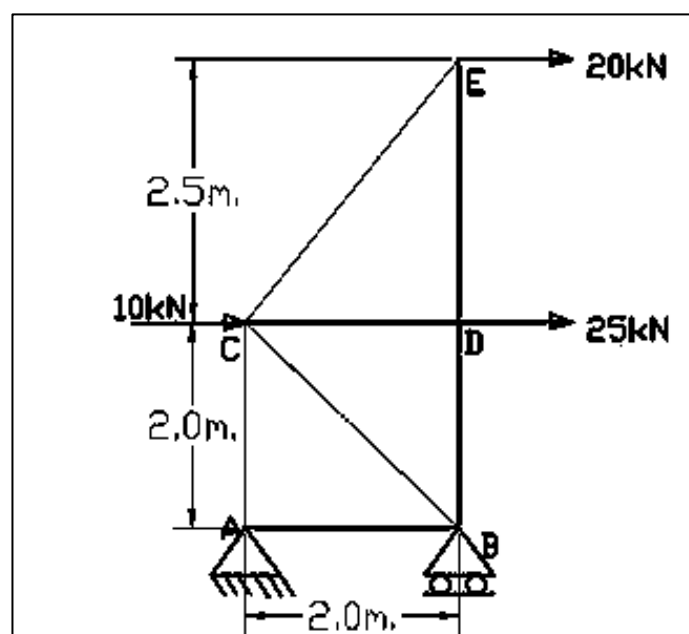

Fig. 7
- (b) Find out the member forces in the truss as shown in Fig. 7 given below, using method of joints.